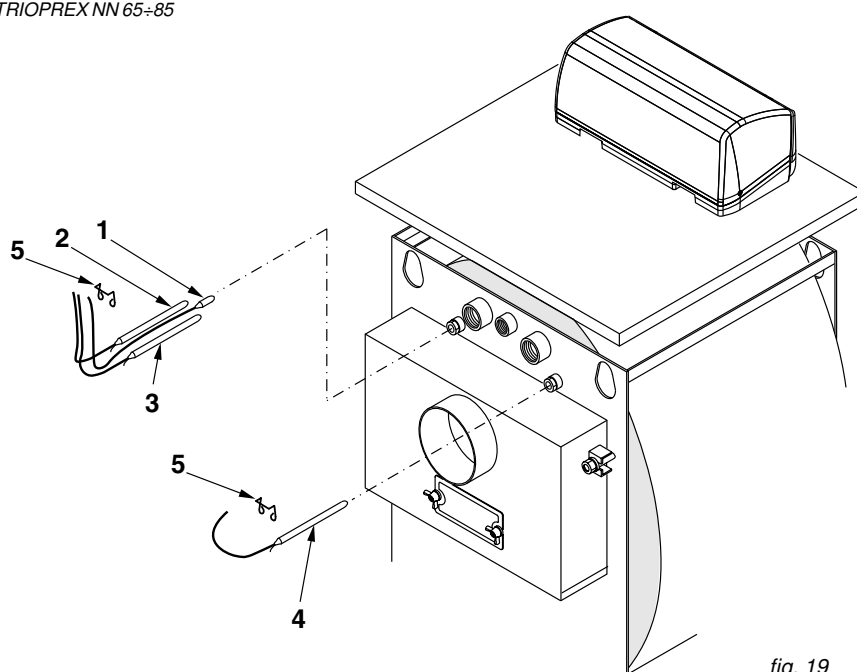

fig. 19
- D) Insert the thermometer and thermostat bulbs in the bulb holders as shown in fig. 19 and connect the mains, the burner, the pump(s) and any ancillary equipment to the panel board.